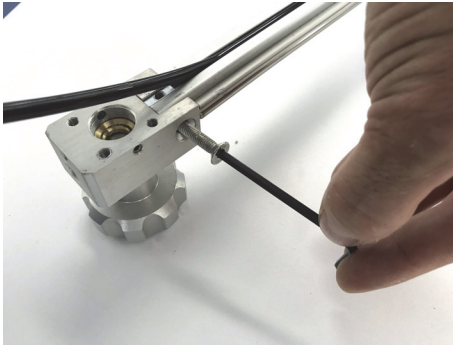

Figure 2-13 Fastening the bracket (*left*) and installing the mounting pod (*right*)
8. Fasten the pod bracket, and then install the mounting pod so that the tube passes through the opening on the pod (see Figure 2-13 on page 35).